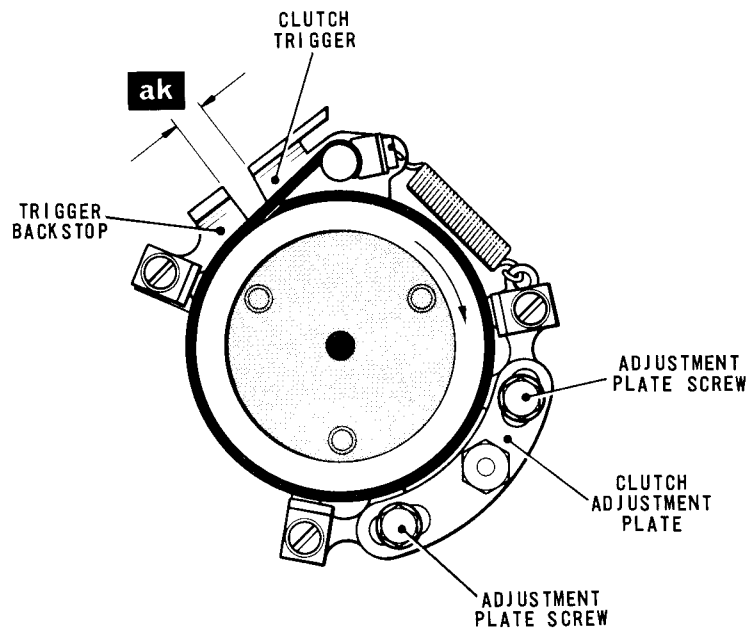

Fig. 4.30 SELECTOR CLUTCH
- 33.1 Move the electromagnet armature to the space position so that the clutch detent is lifted and the clutch trigger, Fig.4.30, is released. Check that there is now a clearance of .093 - .110 in. (dimension 'ak') between the clutch trigger and its backstop.